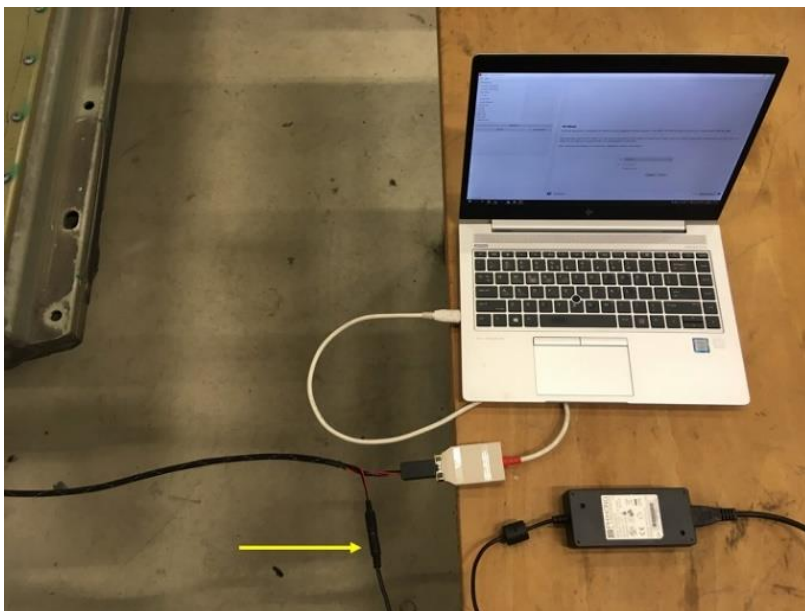

Figure 8 – 12V adapter connected to logic harness
5. Connect the 12V power supply (adapter or XP-10 Power Supply) to the logic harness (Figure 8).